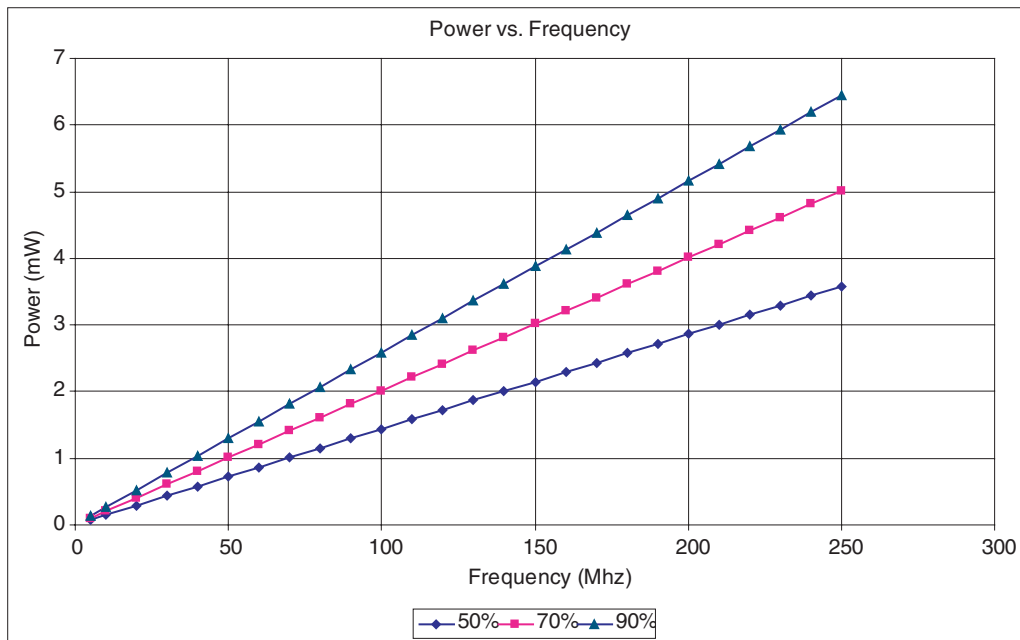

Figure 21: Power vs. Frequency (Absolute 50%, 70%, and 90% of the Available Resources on Chip)
**Figure 21** illustrates the theoretical worst-case scenarios for 50%, 70%, and 90% utilizations of the 6600-516 package. The resources of the device are divided exactly in half; meaning, for 50% utilization, exactly 50% of the I/Os, Logic Cells, RAM blocks, clock network, etc. are utilized. These situations may never occur in a real design, but they do provide a very rough quantitative measure of power consumption when talking in terms of 50% or 70% utilization of an Eclipse device.